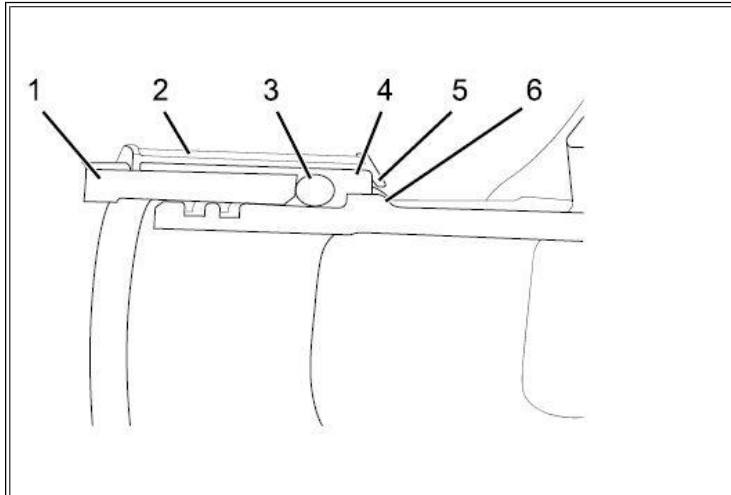

Figure 11: Exhaust Manifold Ring Seal Cross Section
Verify shield completely covers ceramic mat wrap, and ceramic mat wrap overlaps seal packing (**Figure 11**)
25. Install two shield halves with beveled flange (**Figure 11**, Item 5) covering seal packing (**Figure 11**, Item 3) end, and align shield joint with manifold midpoint.